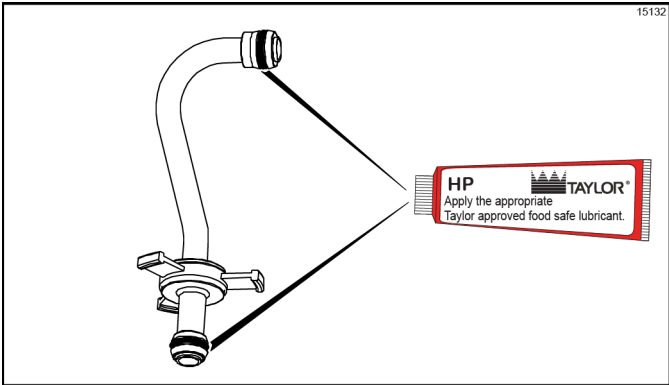

Figure 6-40
11. Install one red O-ring on each end of the mix feed tube and thoroughly lubricate. (See Figure 6-40.)